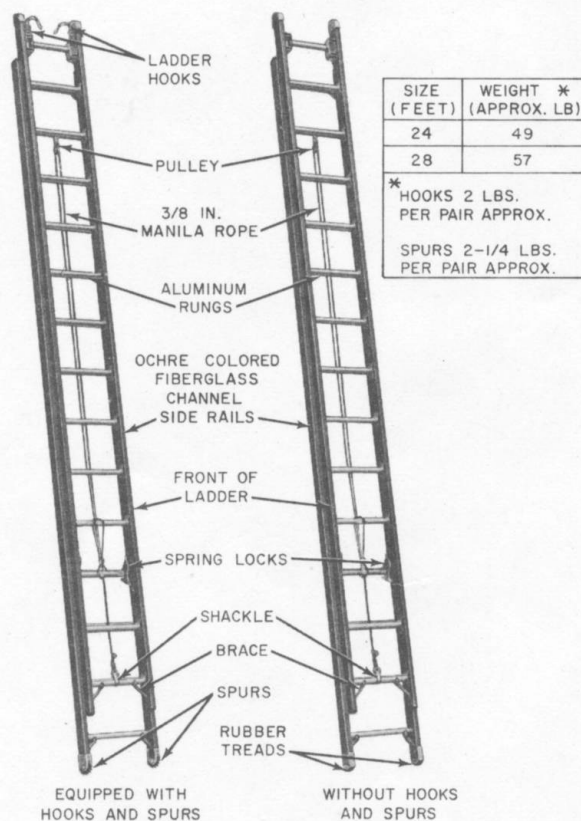

Fig. 1—E Fiberglass Extension Ladders
2.01 The E extension ladder (Fig. 1) is provided for use when working aloft in installation, construction, and maintenance work.